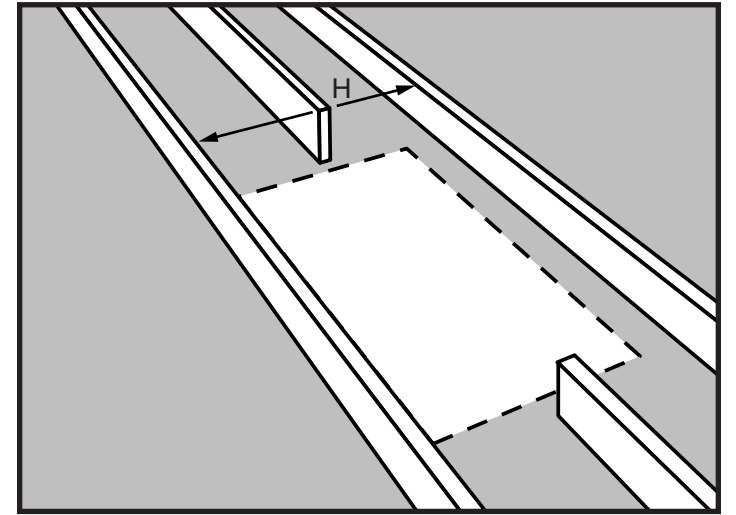

Figure 14
- STEP 1.** Measure the header length "H" between the uncut joists (See Figure14).